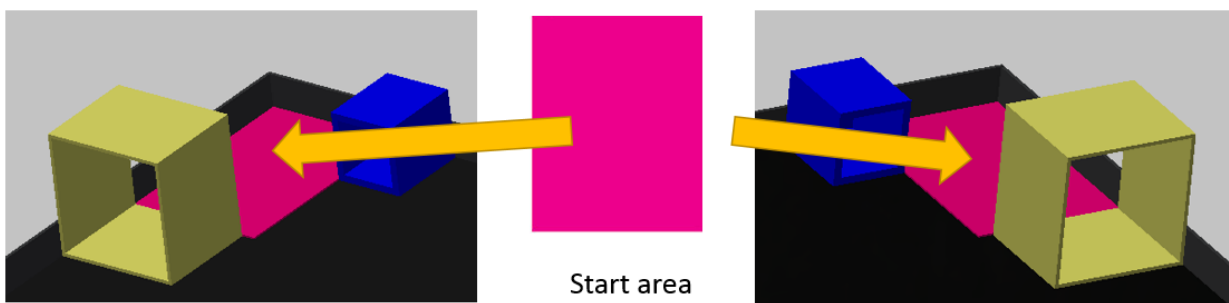

Figure 7: View of the start area
**Start Areas:** The start areas (Figure 7) are located in the top corners of the playing field and are shown by a square painted in the team's colour (dark pink on the left, pale pink on the right, as seen by the audience). This is the only starting area allowed for robots to start the game. Before the start, the robots must be entirely contained within the start areas. Start areas will be boards: Royal Brites 2 Cool Foamboard, 20" x 30", Pink; Item # 977958; OfficeMax # 24033662: <http://www.officedepot.com/a/products/977958/Royal-Brites-2-Cool-Foamboard-20/>
Shipping goods will be located on the barge in the center of the field. The maximum stacking height of the shipping containers on the boat are two containers as shown in the figure below. There will be 2 rows and 8 columns of containers in each one of the zones. The photo shows two. The barge has three different zones: A, B, and C, as shown in Figures 7 and 8.